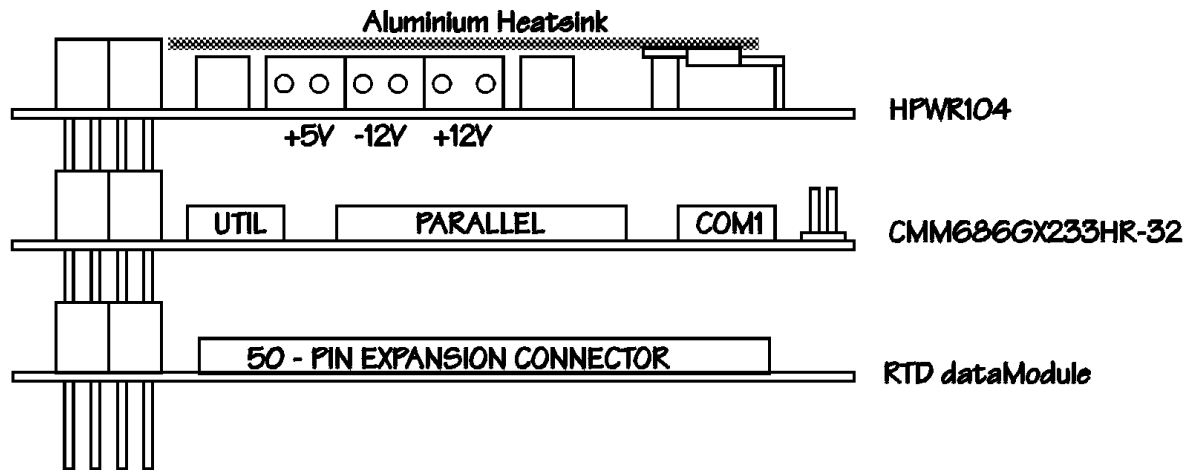

Fig. 2-1: HPWR104HR powering an RTD PC/104 cpuModule stack
- Fig. 2-1: HPWR104HR powering an RTD PC/104 cpuModule stack**